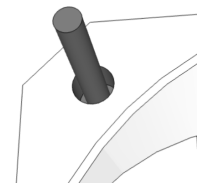

Figure 3. Step 4
4. Pull the black plastic part off of the push-rotary shaft (see figure 3).